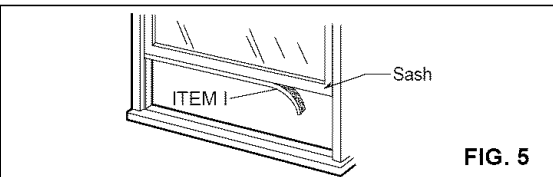

FIG. 5
- 3 Cut the FOAM SEAL (ITEM I) to fit the underside of the window sash. Peel off the backing and attach the FOAM SEAL as shown in Fig. 5.